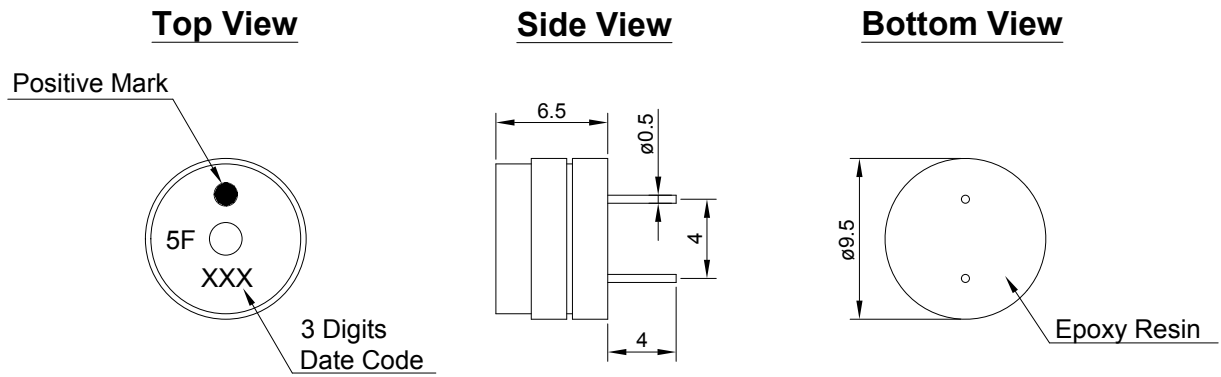

Figure 3. HC0905F Mechanical Layout
- 4.3.1. Layout and Dimension : See Section 6, Figure 3